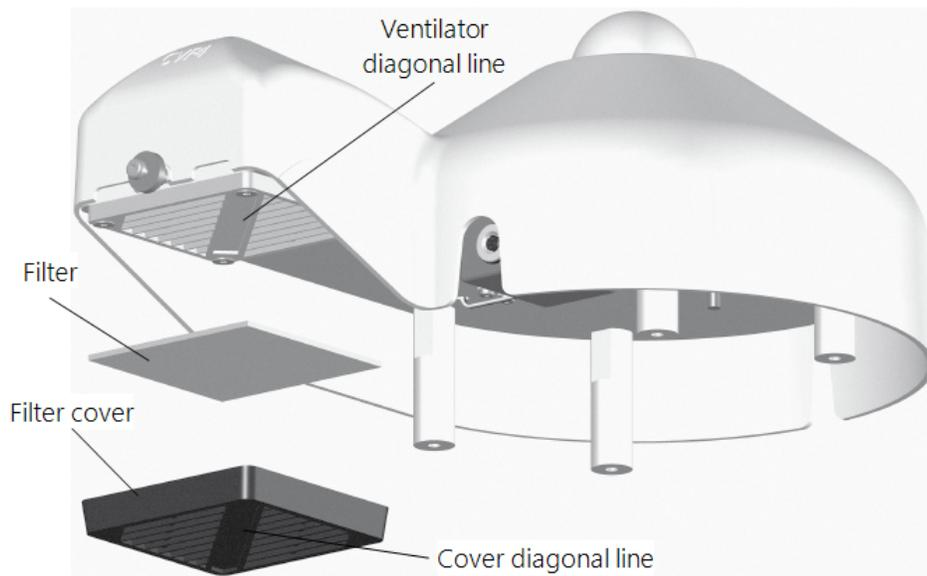

Figure C-11. CVF4 filter replacement
3. Regularly inspect the fan inlet by unclipping the cover. For optimal air flow, make sure the diagonal line on the filter cover is in line with the diagonal line on the ventilator (Figure C-11 [p. 34]). The filter cover clicks back on the ventilator.